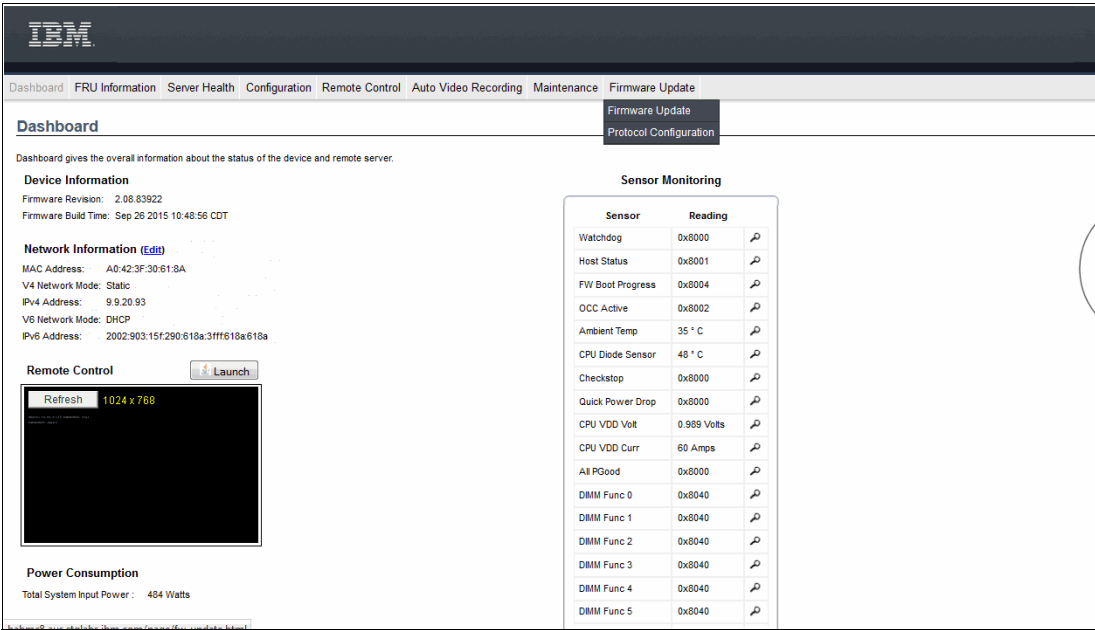

Figure 3-3 Dashboard Firmware Update menu
2. Click **Firmware Update** → **Firmware Update**, as shown in Figure 3-3.